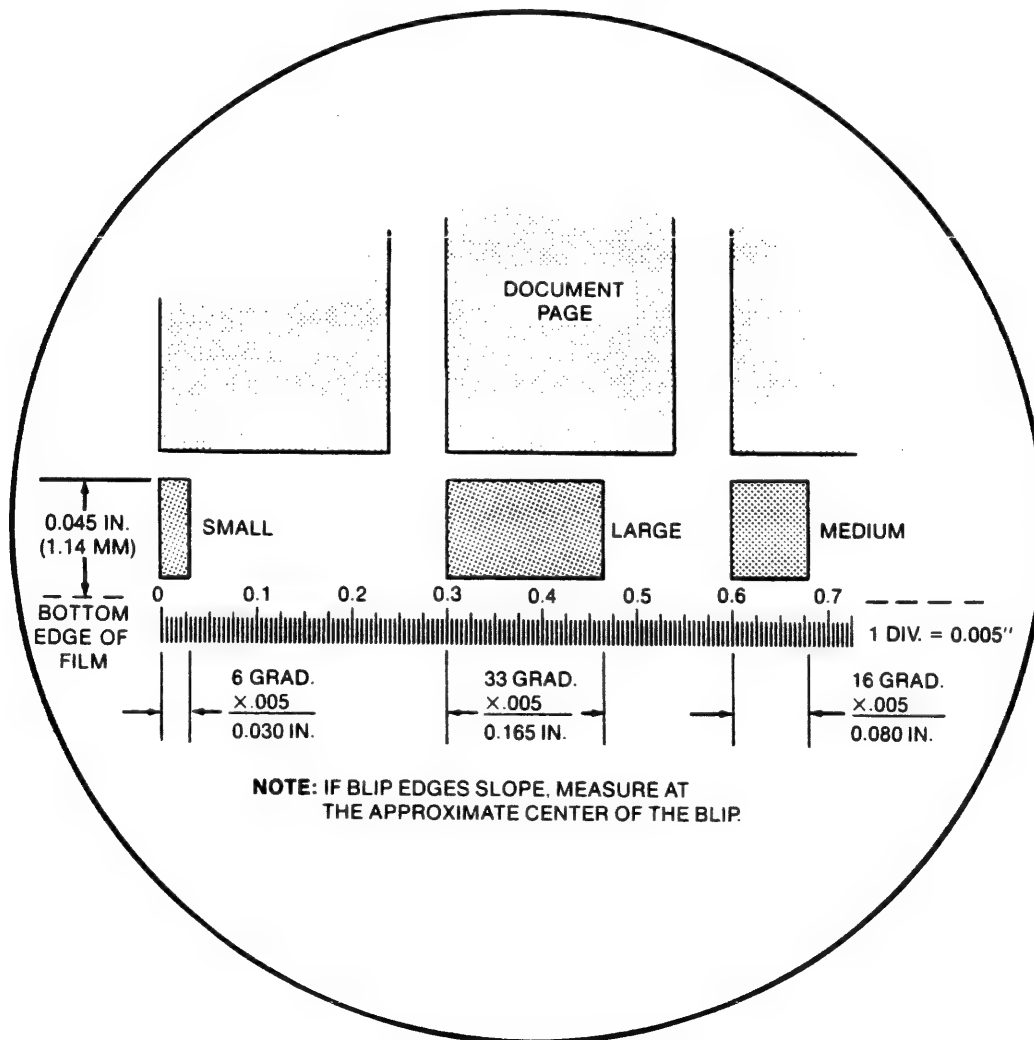

Figure 5-2.2A
1. Measure the suspected blips (or spacing) on film as show in Figure 5-2.2A.